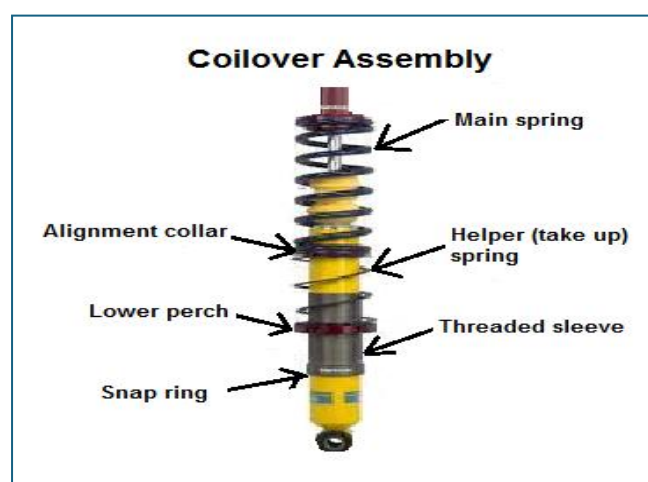

Figure 20
- 25.18** Helper or take up springs with alignment collar are allowed and must be mounted. Only one take up spring and collar allowed per coil over assembly. Maximum take up spring rating must not exceed **12 pounds** and must be of a flat configuration only. The only purpose of the take up spring is to support the main spring if it is released during droop (Figure 20).